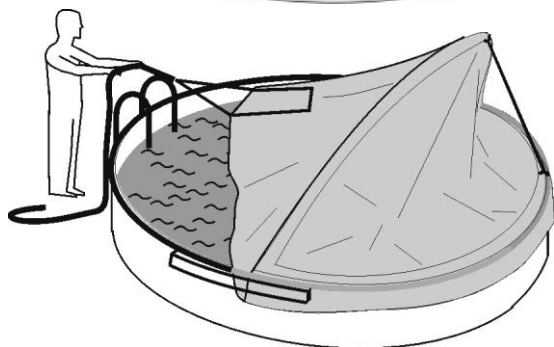

fig. 10.2
- Collapsing of the Cabrio Dome must be controlled with pulling rope (18) (fig. 10.2).